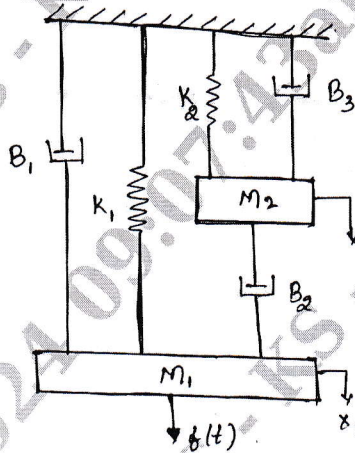

Fig.Q2(b)
- A thermometer is dipped in a vessel containing a liquid at constant temperature " $\theta_i(t)$ " with thermal capacitance " C " and Thermal Resistance (R). Temperature indicated by thermometer is " $\theta_0(t)$ ". Develop a transfer function for the system. (10 Marks)
- Develop a transfer function $\frac{X_2(s)}{F(s)}$ for the Fig.Q2(b).